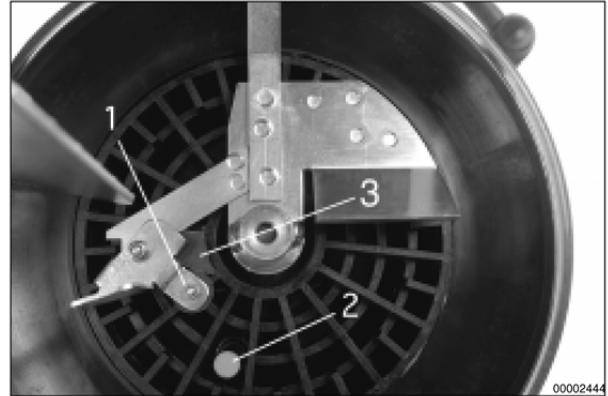

Fig. 4-6. Low-level Control 1-Magnetic switch, 2-Electromagnetic switch, 3-Control Arm
Refer to Figure 4-6. The magnetic switch (1) and control arm (3) are attached to the stirring paddle. With the grease level above the minimum mark, the control arm pivots the magnetic switch out of range of the electromagnetic switch (2).